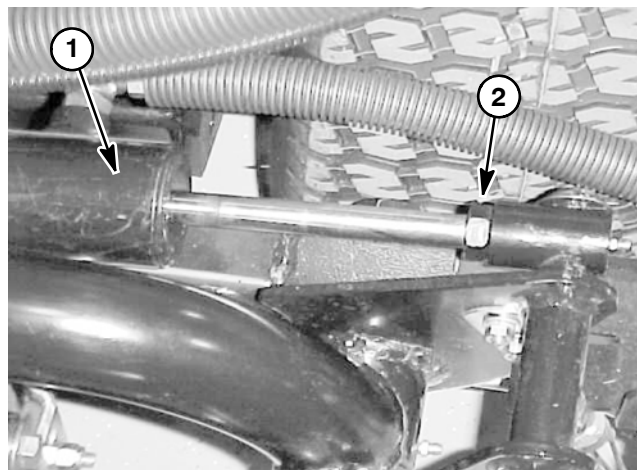

Figure 9
3. If the clearance is not in this range, attain proper clearance by adjusting the rear hydraulic cylinder as follows (Fig. 9):